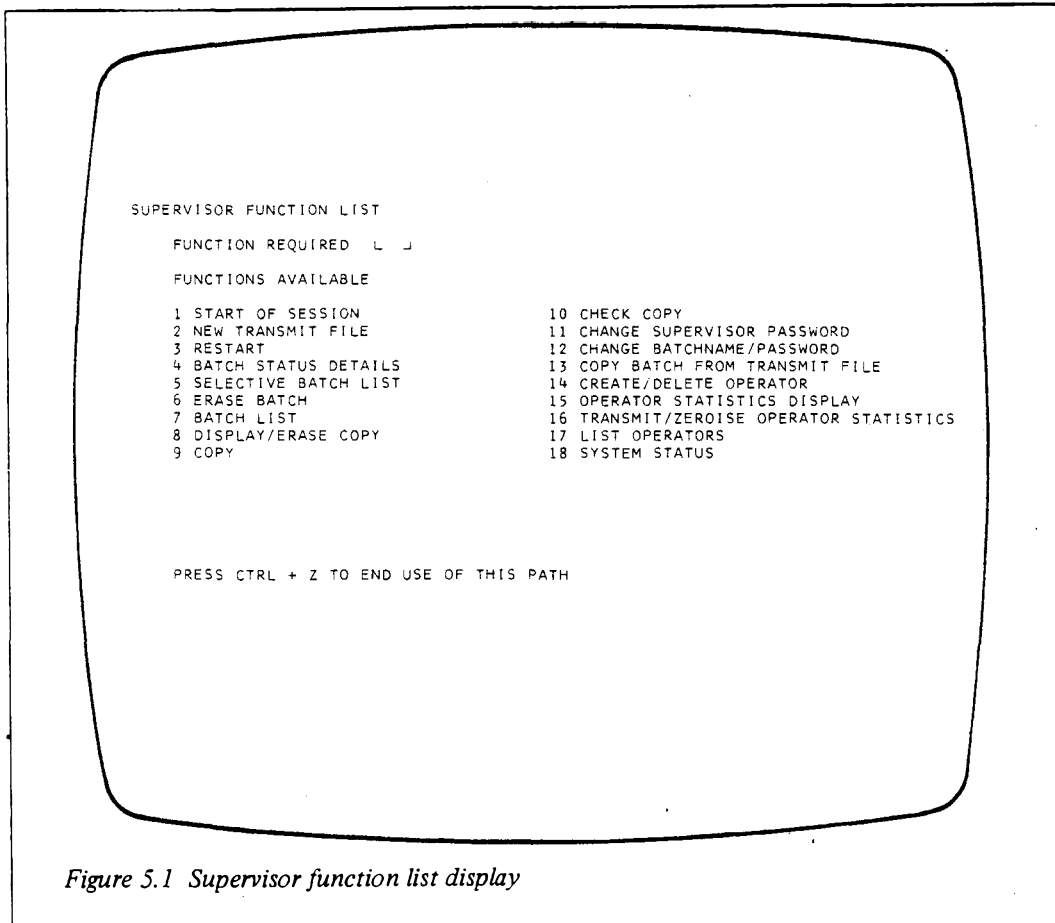

Figure 5.1 Supervisor function list display
- (d) After correct input of the password the system replies with the supervisor function list display as shown in Figure 5.1
All the functions available are on the supervisor function list display as shown in Figure 5.1. This is the first screen displayed after successfully entering the supervisor path.